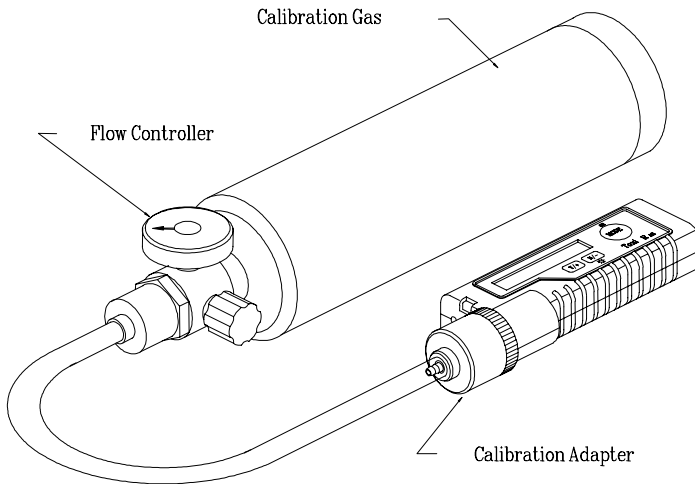

Figure 4.1 Installation of Gas Calibration
The calibration adapter links up the sensor cap on the ToxiRAE Unit to the gas bottle (see Figure 4.1).
2. If "zero" air is available, snap in the calibration adapter over the sensor cap of the ToxiRAE Unit and connect the other end of the tube to the zero gas bottle, as shown in Fig. 4.1. If the "zero" air is not available, simply leave the unit in an area free of any detectable vapor (do not use calibration adapter in the latter case).
This procedure determines the second point of the sensor calibration curve. A bottle of standard reference gas (span gas) is needed to perform this procedure. 100 ppm isobutylene is typically used as the span gas. Snap in the calibration adapter over the sensor cap of the ToxiRAE Unit, and connect the tube to the gas bottle as shown in Figure 4.1
The purpose of this function is to check the instrument drift since last calibration. A bottle of standard reference gas is needed to perform this procedure. Use the same gas as used in calibration. Snap in the calibration adapter over the sensor cap of the ToxiRAE Unit, and connect the tube to the gas bottle as shown in Figure 4.1